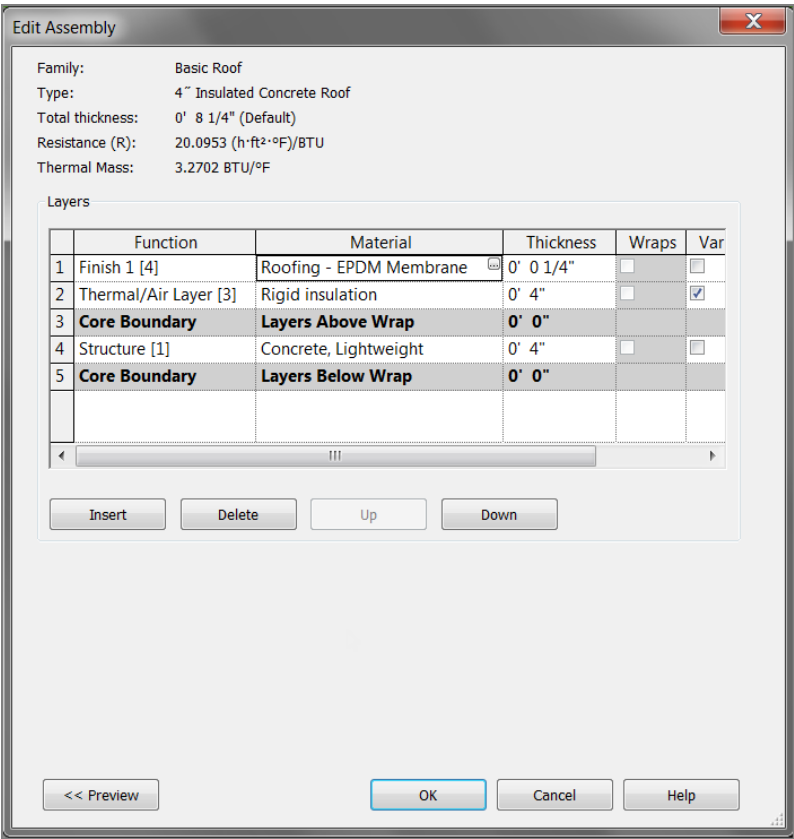

FIGURE 7.6: The completed roof system
- 21. Change Thickness to 1/4" (6mm), as shown in Figure 7.6.